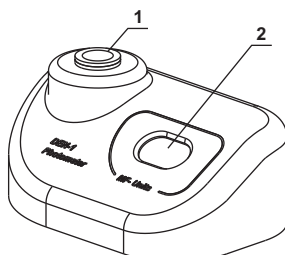

Fig.2 Front panel
- 3.4.3. Insert the tube with the standard solution, corresponding to the calibration point value, into the socket of Densitometer (fig.2/1).
- 4.3. The following indication may be shown on the display (fig.2/2):
- 4.4. Shake the tube with the solution (it is recommended to use vortex, e.g. Personal vortex V-1 plus, for shaking) and insert it into the socket (fig.2/1). The McFarland value for the solution will be shown on the display (fig.2/2).